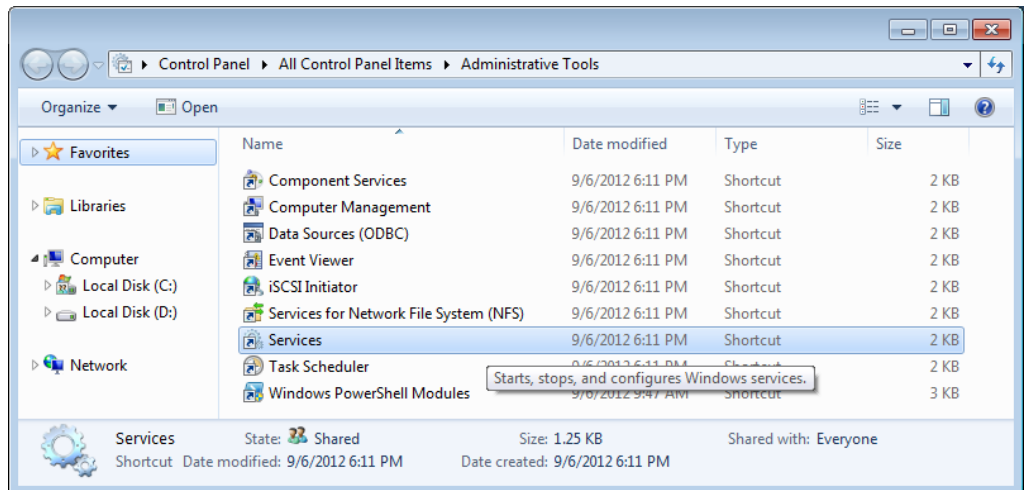

Figure 12: Services
- o via the „ControlPanel-AdministrativeTools“ see >Figure 12<.